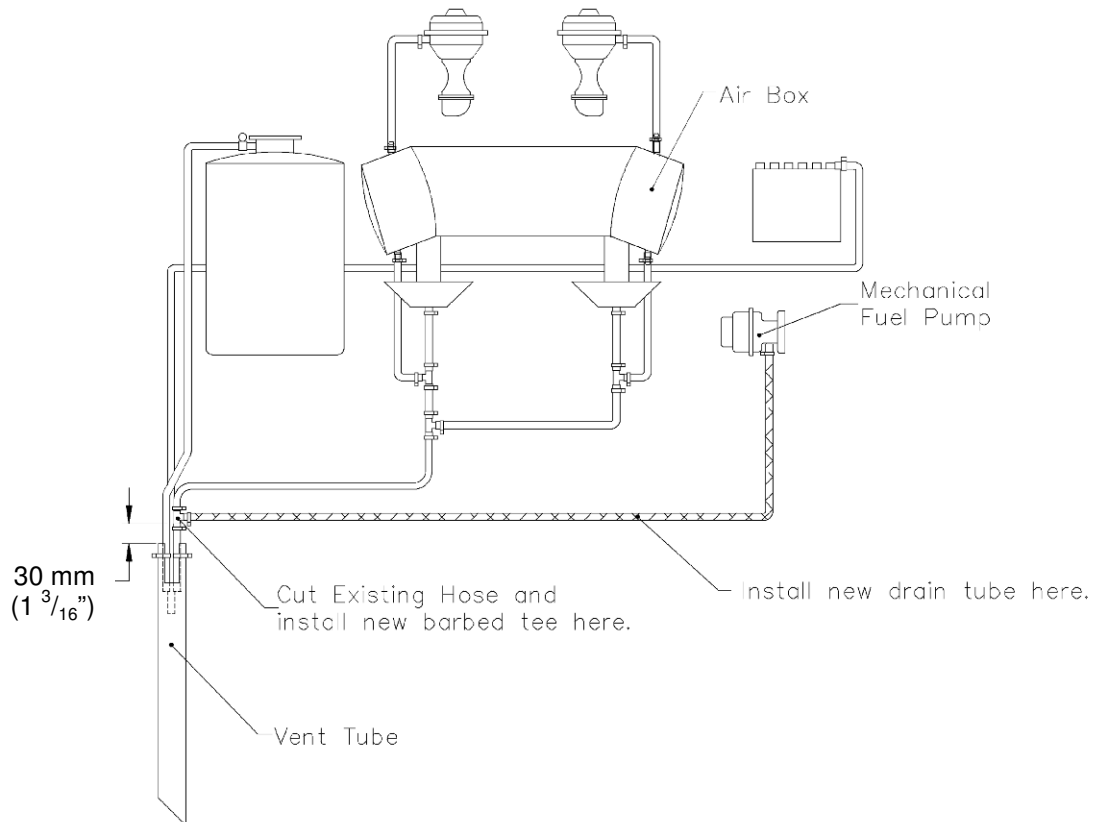

Figure 3 – Drain Tube Installation (Schematic)
- 10.2.3 Cut existing fuel drain hose 30 mm ($1 \frac{3}{16}$) above Vent Tube and install supplied barbed tee fitting as shown on Figure 3.